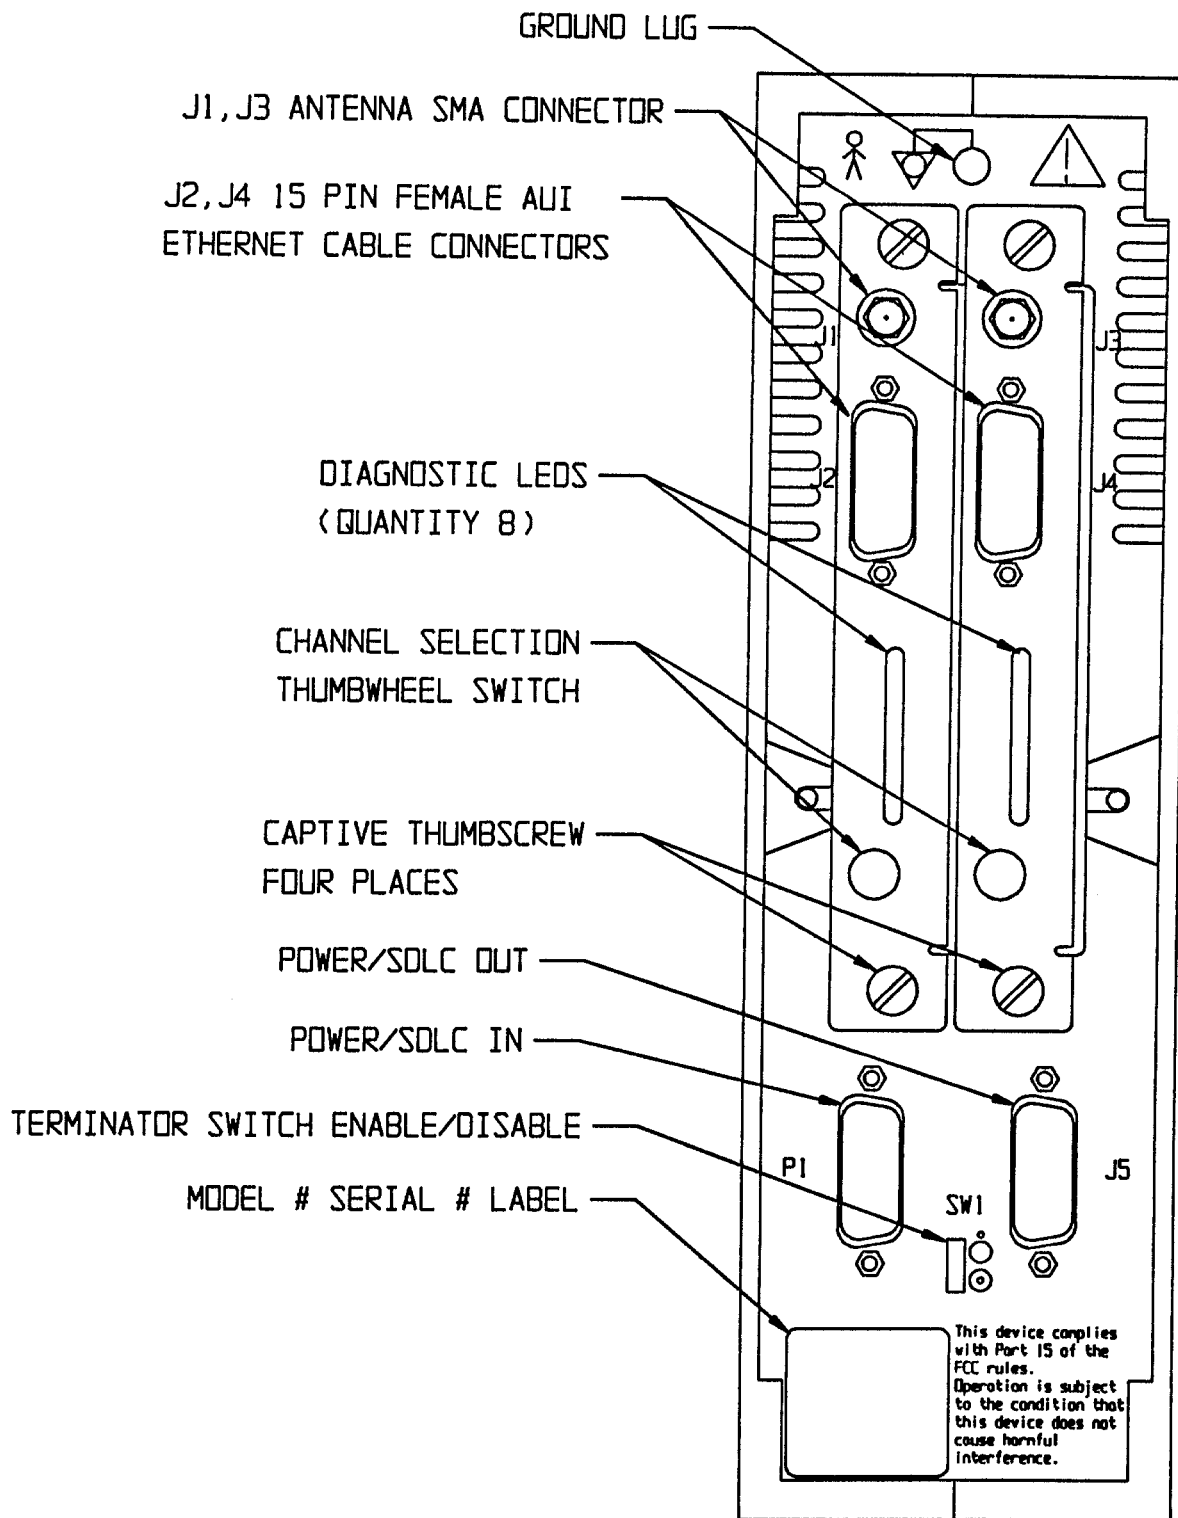

FIGURE 2
3.0 Ground Lug (refer to figure 2)
4.0 J1, J3 Antenna SMA Connector (refer to figure 2)
5.0 J2, J4 15 pin Female AUI Ethernet Cable Connectors (refer to figure 2)
6.0 Diagnostic LED's (refer to figure 2)
7.0 Channel Selection (refer to figure 2)